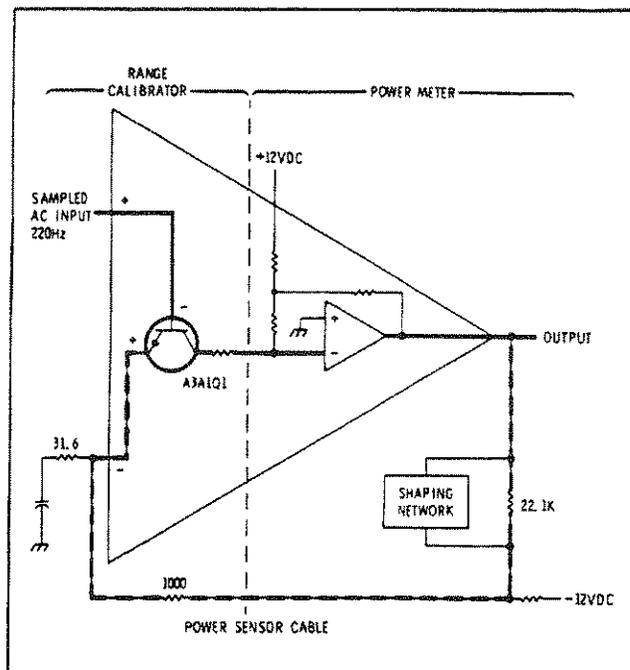

Figure 12. Hybrid Operational Amplifier
The Input Amplifier and the first amplifier in the Power Meter are the component parts of a Hybrid Operational Amplifier. The Amplifier, which has a gain of approximately 730, is shown in Figure 12.
- f. Gently lift the FET Assembly and spacer from the circuit board. Refer to Figure 12.